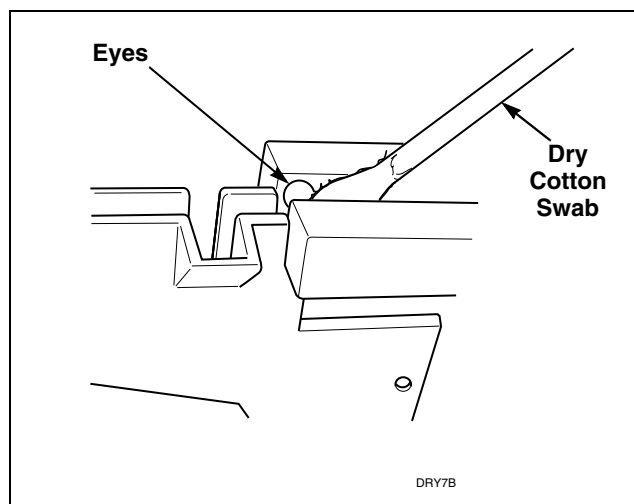

Figure 16
- j. Check coin drop sensor for dust or dirt on eyes. Wipe eyes with dry cotton swab. Refer to *Figure 16*.